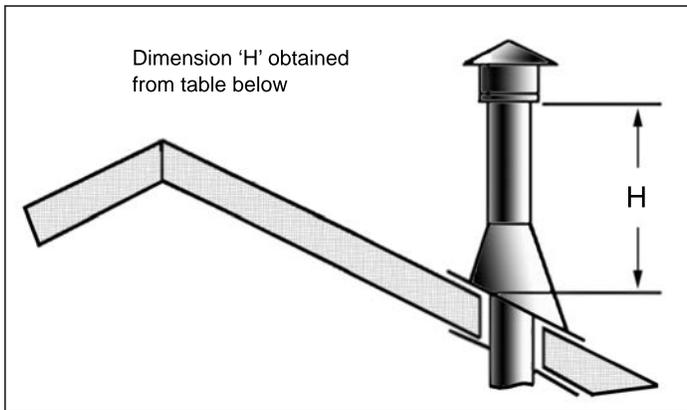

Figure 55: Height of Vertical Termination; Reference Table 8.
- STEP 8.** Continue to add pipe sections until the height of the vent cap meets the minimum code requirements. Refer to Figure 55 and Table 8. Note that for steep roof pitches, the vent height must be increased. In high wind conditions, nearby trees, adjoining roof lines, steep pitched roofs, and other similar factors can result in poor draft, or down drafting. In these cases, increasing the vent height may solve the problem.